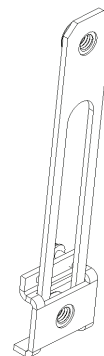

FIGURE 3
- Place fixture against pole. Adjust nut plate (See Figure 3.) to desired hole spacing and tighten set screw on plate.